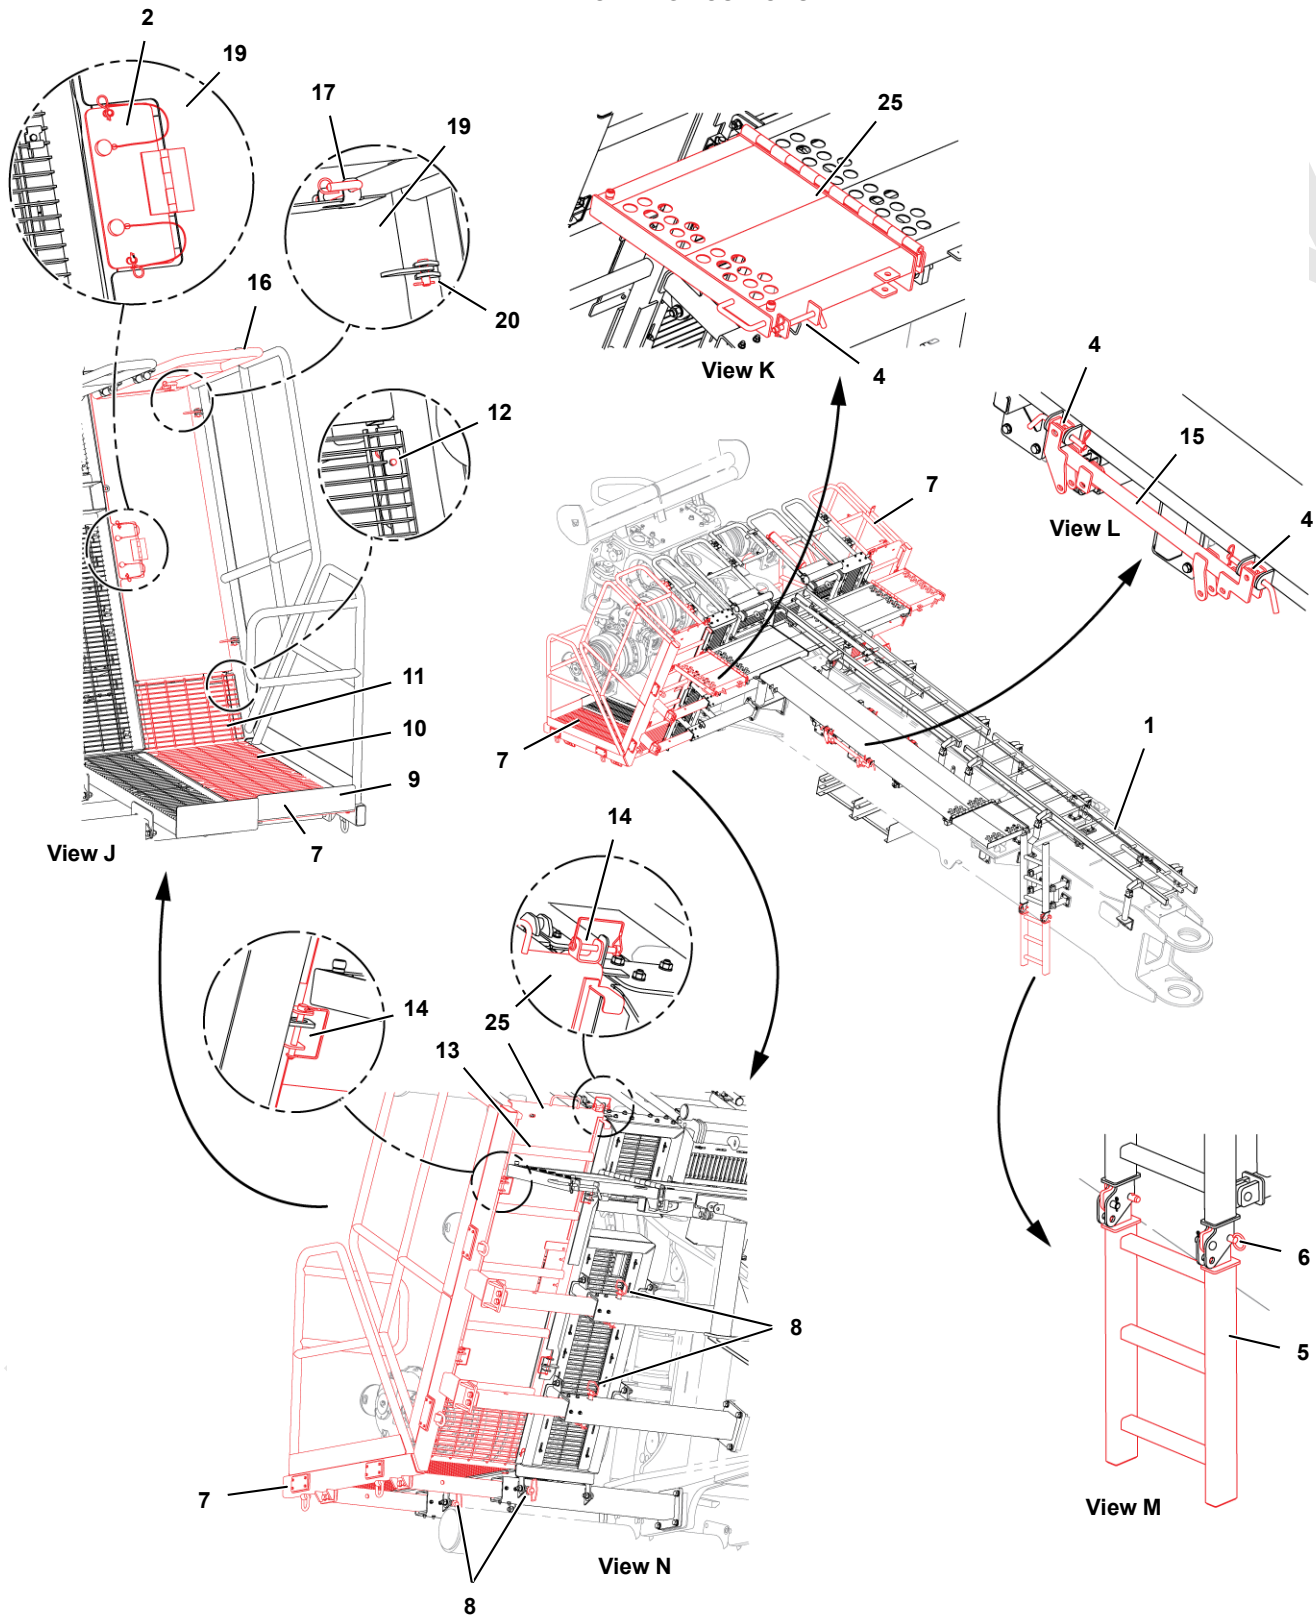

FIGURE 5-88
1. Disconnect rods (16, View E) from hydraulic swivel levers (18).
2. Disconnect grease hoses (14, View B) from grease couplers (15) on the VPC actuator.
3. Disconnect hydraulic hoses (12, Views B and C) from the hydraulic couplers (13) on the VPC actuator.
7. Remove pins (7) from the working position (View H) and install them in the shipping position (View G).
9. Attach four legs of chain lifting sling (19, View J) to VPC actuator (1).
- Unpin and rotate walkway extension (3, Figure 5-88, View C) out of the way to access the bottom-right lifting lug.
12. Remove pins (4) and rotate hydraulic pins (5) from the working position (View H) to the shipping position (View G).
14. Lift VPC actuator (1) and actuator frame (2) from the rear of the rotating bed and place them on the ground in the disassembly area.
FIGURE 5-88 continued
Legend for Figure 5-88
See Figure 5-88 for the following steps.